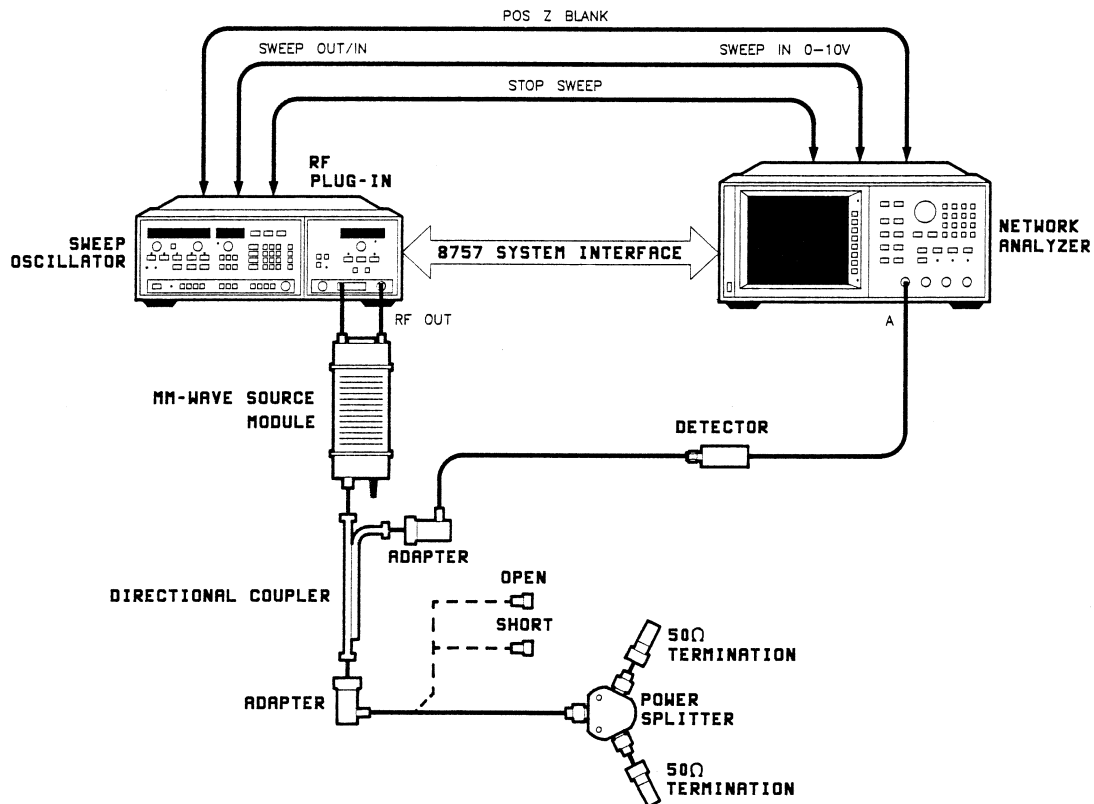

Figure 4-2. Input Return Loss Test Setup 40 to 50 GHz
1. Set up the equipment as shown in Figure 4-2 with nothing connected to the adapted output of the coupler. Allow 30 minutes warm-up.